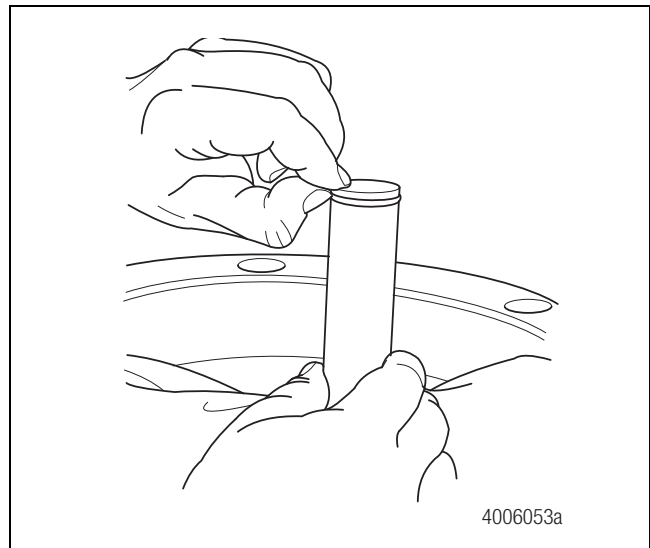

Figure 3.10
4. Remove the O-ring seals from the pinion shafts. Discard the O-ring seals. Figure 3.10.